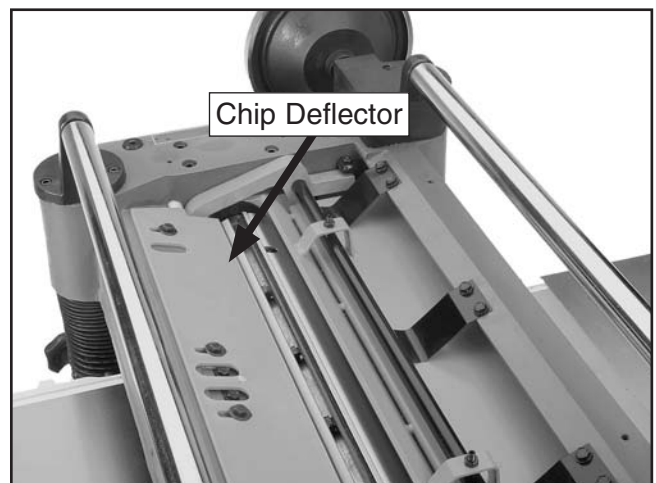

Figure 49. Chip deflector and securing hex bolts.
3. Use the cutterhead pulley to rotate the cutterhead until a knife reaches the closest distance to the chip deflector (see **Figure 49**), then measure the distance between the knife and the chip deflector.